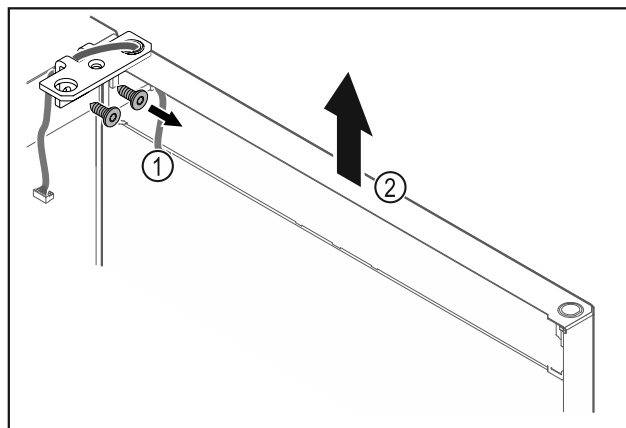

Fig. 25
- Unscrew the hinge Fig. 25 (1).
- Lift the door with the hinge straight up by Fig. 25 (2) roughly 200 mm (7.87 in) and take it off.